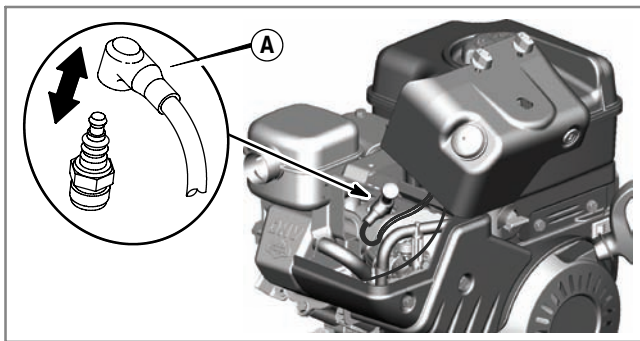

Figure 17
1. With engine off but still warm, disconnect the spark plug wire (A) and keep it away from the spark plug (Figure 17).